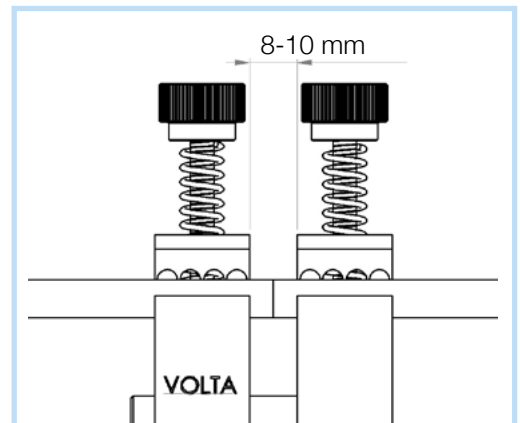

Fig. 11
3. Push to open the clamp (6) and place the belt edges so that the ends are touching approximately at the centre of the pliers gap (Fig. 11).
4. Release the clamp and allow the spring load to lock the belt ends in place. Adjust the knurled nut (18) if needed.